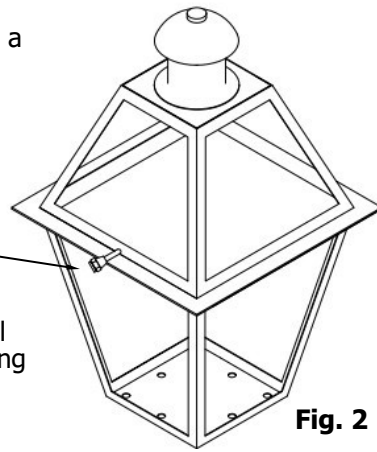

Fig. 2
2. Remove lantern from packing and assure that the gas line is extended from the side with a 1/4" male flare fitting attached. Figure 2.
1. Remove the Gooseneck from the packing. (Figure 2)